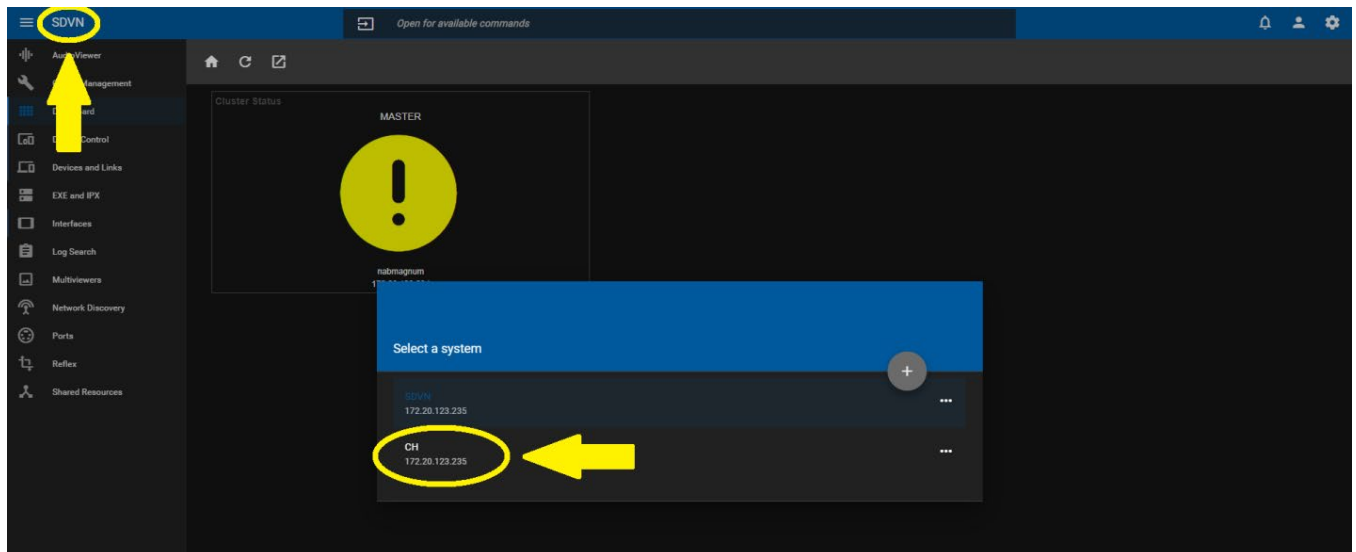

Figure 9-2: MAGNUM - SDVN Screen
3. Switch to Client Host by clicking “SDVN” at the top-left of the page and then selecting “CH” (Figure 9-2).